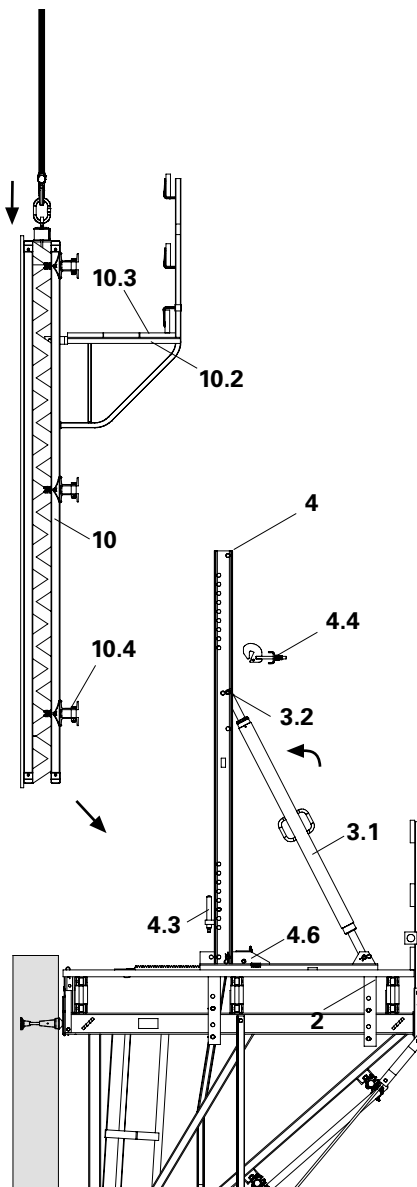

Fig. B2.11
5. Lower formwork (10) with the bottom waler (10.4) onto the Height Adjusting Unit. Lifting gear remains tensioned.
6. Mount Waler Fixation (4.4) to the walers. (Fig. B2.11)